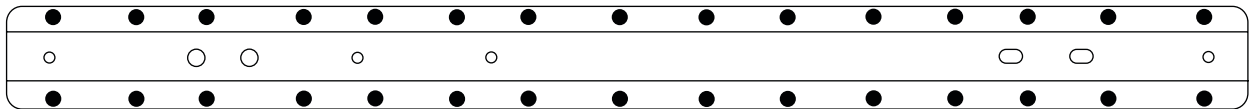

FIGURE 1
- Black dots represent the location of thirty (30) blind rivets (W707638-S900C) to floor pan. (Refer to Figure 1).